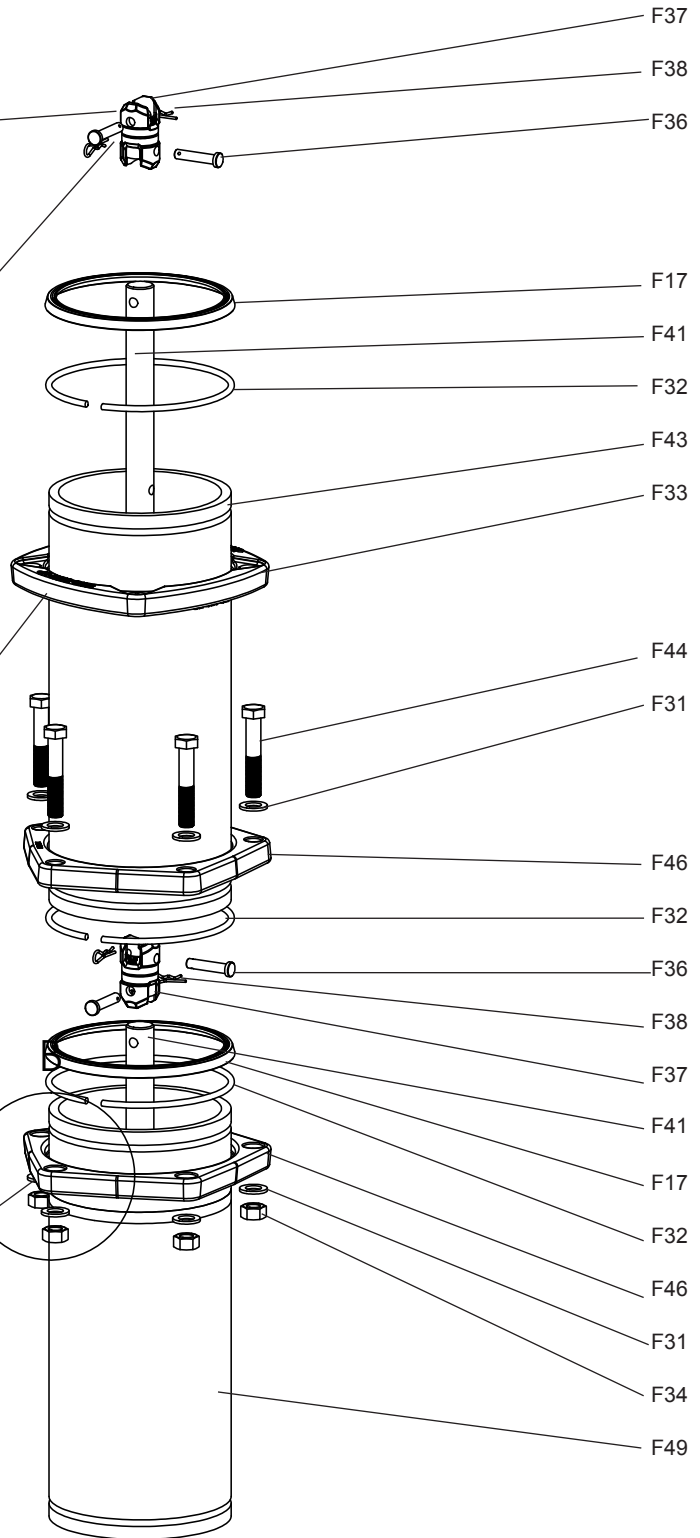

Fig. 10
EXTENSION KITS: Fig. 10
17. Align the bolt holes on the two Standpipe Flanges (F46) and install the Extension Barrel Bolts (F44), Nuts (F34) and Washers (F31) as shown in Figure 10 and "Detail E". Tighten to 80 Ft. Lbs..
EXTENSION KITS: Fig. 10 (continued):